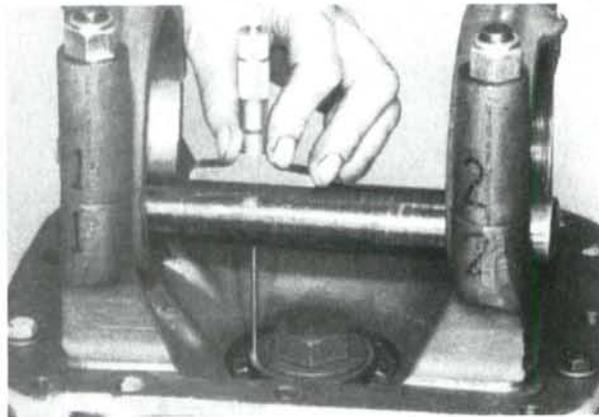

Fig. 28—View showing proper depth gage and pilot shaft placement used in determining pinion shaft protrusion.
Install carrier bearing caps (1—Fig. 27) on carrier housing and tighten nuts to 205 N·m (150 ft.-lbs.) torque. Measure and record diameter of bearing bore (A). Place a shaft (3), having a diameter of at least 25 mm (1 inch) and having a cross hole drilled through it, across bearing bores as shown in Fig. 27. Measure and record diameter (B) of shaft. Using a depth gage measure from top of shaft to face of inner bearing cone (Fig. 28) and record measurement (C—Fig. 27).